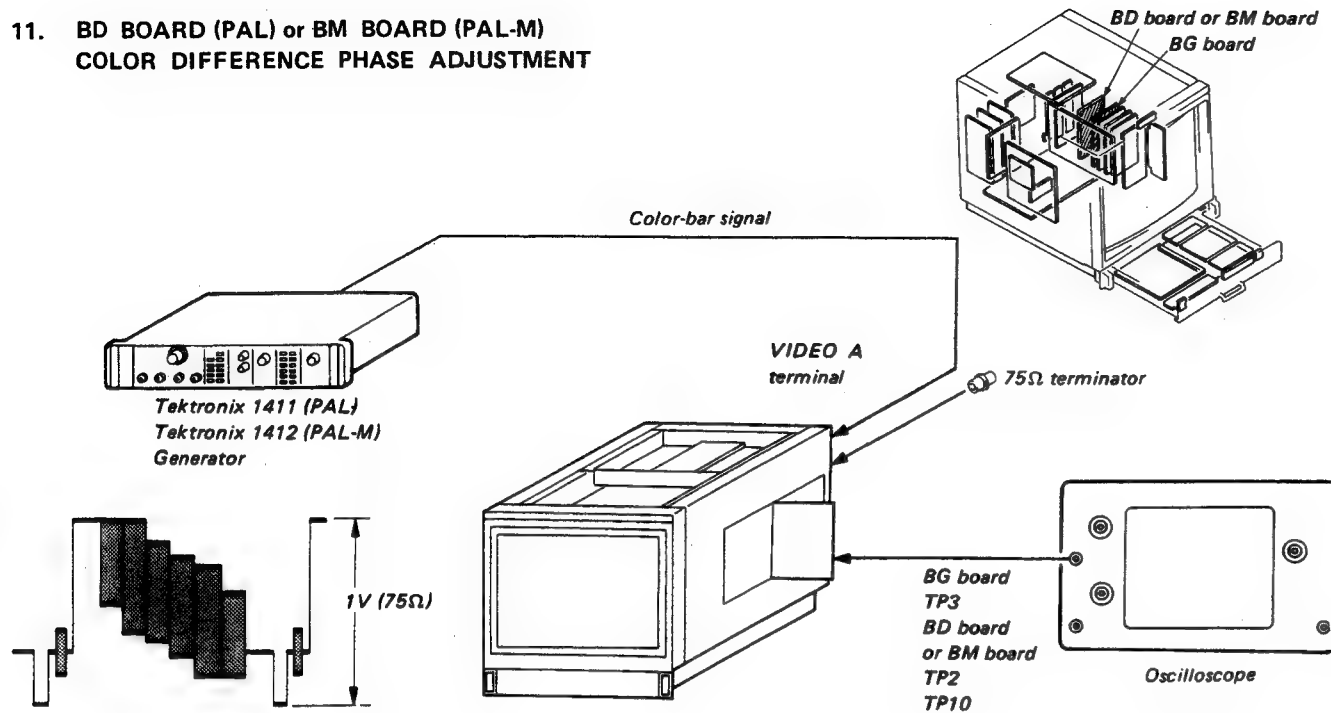

Fig. 11-1
1. Complete the connections as shown in Fig. 11-1.